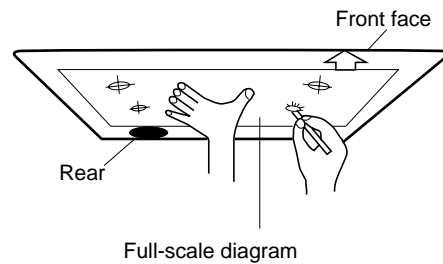

Fig. 3-64
- (1) Place the full-scale diagram (accessory) on the ceiling at the spot where you want to install the indoor unit. Use a pencil to mark the drill holes. (Fig. 3-64).